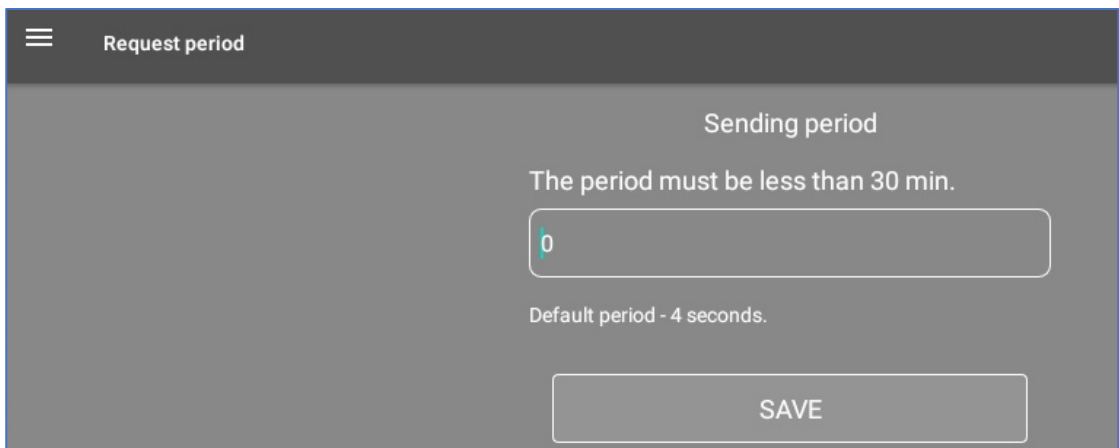

fig.3.11. Request period menu
8) In the menu “Request period” set the request interval to GPS tracker (fig.3.11).